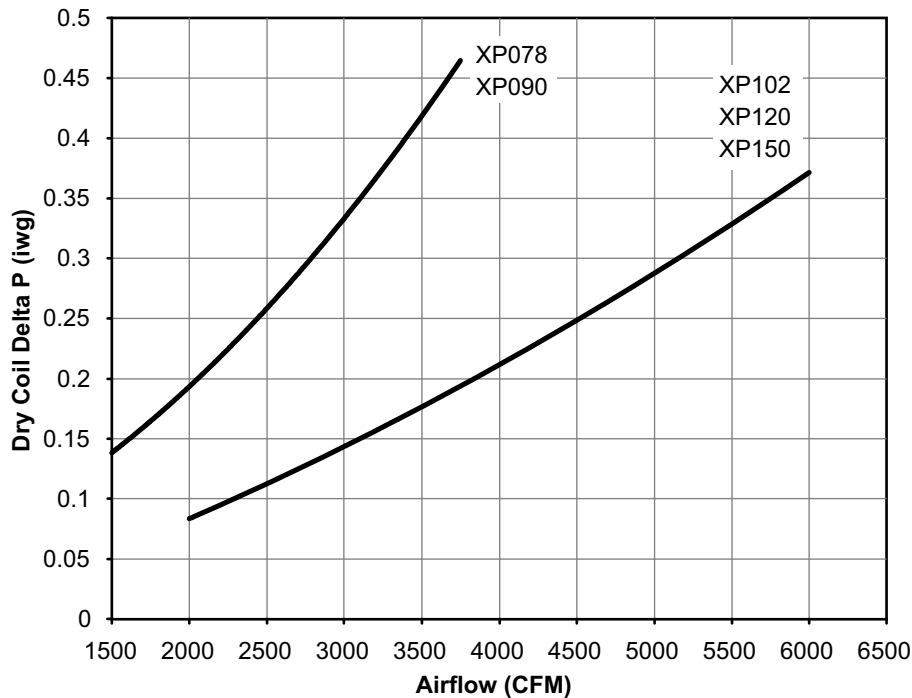

Figure 28: Dry coil delta P
- Use the pressure drop indicated by the manometer and the graph in Figure 28 to determine the unit CFM. In order to obtain an accurate measurement, verify that the air filters are clean.